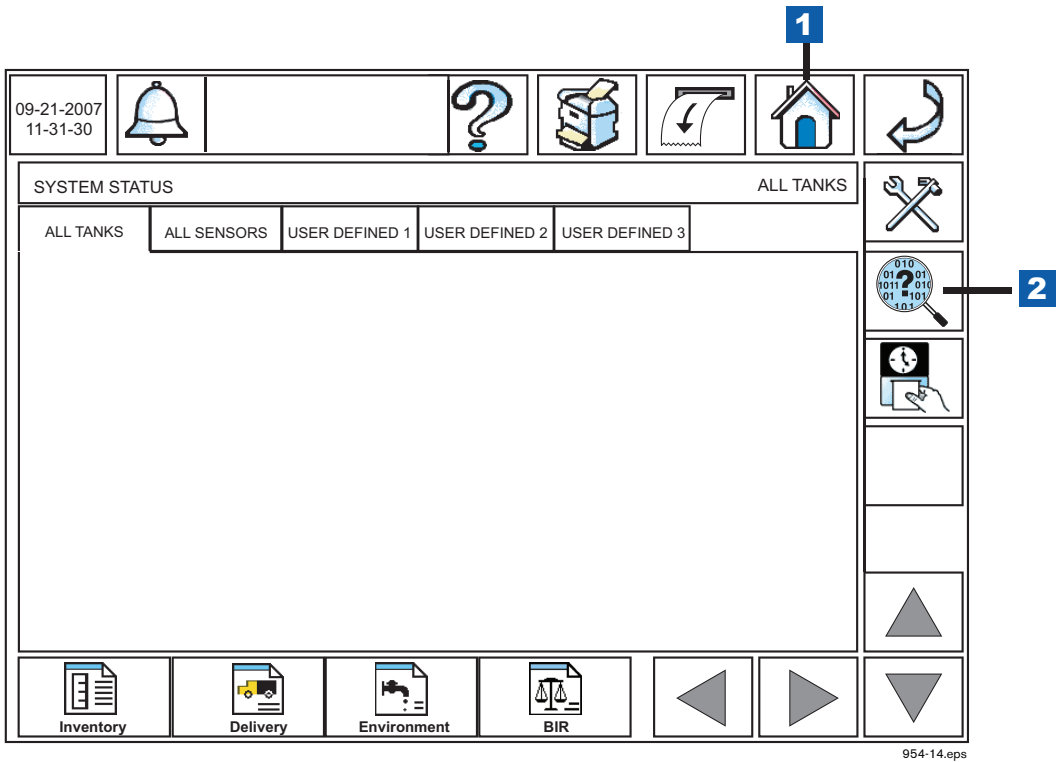

Figure 2. Accessing Diagnostic Main Screen from the Home Screen
- 2. Touch the Diagnostics button on the Home Screen (see item 2 in Figure 2).
LEGEND FOR NUMBERED BOX IN Figure 2